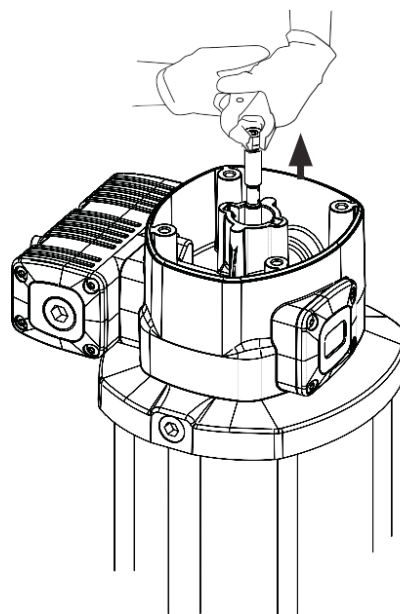
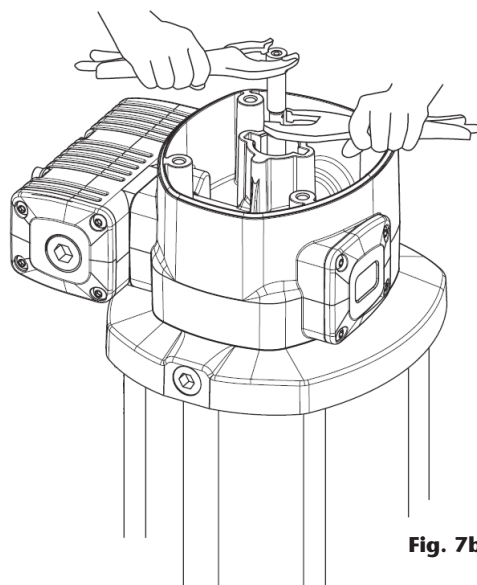

Fig. 7a
Fig. 7b
1. Unscrew bolts (2) and lifting nuts (94), then remove cap (3).
2. Unscrew the sensor sleeve (4).
3. With a manual clamp on the nut (5), pull the rod on the air piston assembly (37) outwards until its central recess appears (fig. 7a). Then, with another manual clamp, grab said rod on said recess to prevent its sealing surface to be damaged, and unscrew the nut (5) (fig. 7b).
4. Remove O-ring (6) and ring (7), and replace them with new ones later.
5. Unscrew bolts (44, 92). Pull the motor head (13) upwards to free it along with flange (34).
6. Take away the gasket (8) and replace its seals (9) and (10).
7. Unscrew 5 bolts (35) and split motor head (13) from the flange (34). Take away the washer (30) and replace the seal (10).
8. Take away the cylinder (40) while carefully holding the air piston (37). Replace the piston seal (36).
9. Reassemble in reverse order, applying thread locker in screws (35), nut (5) and sensor sleeve (4).